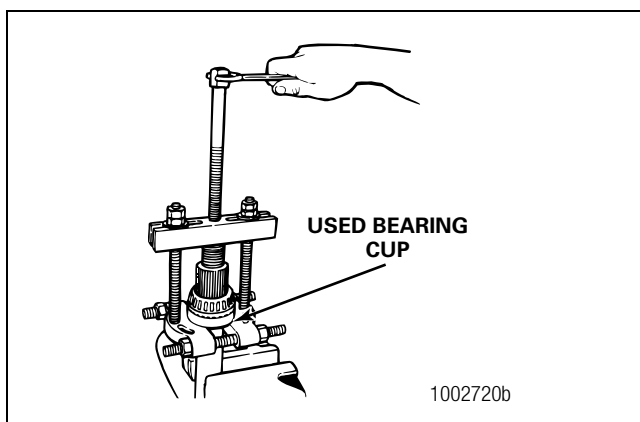

**Figure 3.15**
2. Place the thru-shaft into a press. Figure 3.15. The used bearing cup supports the thru-shaft.